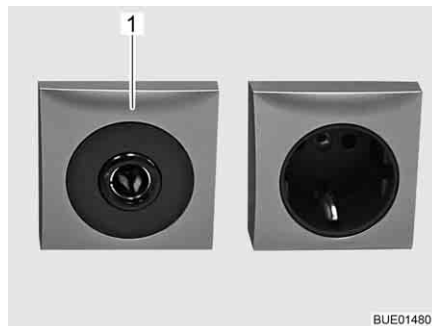

Fig. 164 12 V/10 A socket
- ▷ Only connect devices with a maximum of 10 A to the sockets (Fig. 164,1) of the 12 V power supply.